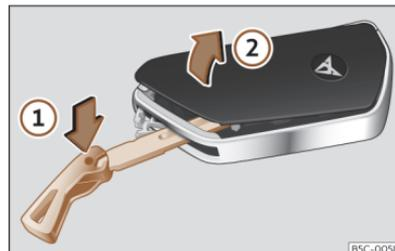

Fig. 80 Vehicle key: open the battery compartment cover.
- Insert the key blade into the slot >>> Fig. 80, press it in the direction of arrow ① and detach the cover by levering it ②.